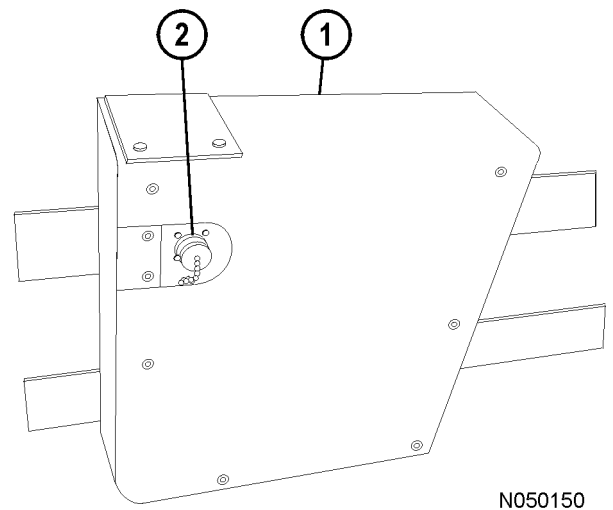

FIGURE 32-4. PAYLOAD METER III
The payload meter (1, Figure 32-4) and download connector (2) are used to provide management with operational data such as tonnage hauled and cycle times.
Download connector (2, Figure 32-4) is used with a special cable to allow the payload meter (1) to communicate with a portable computer.